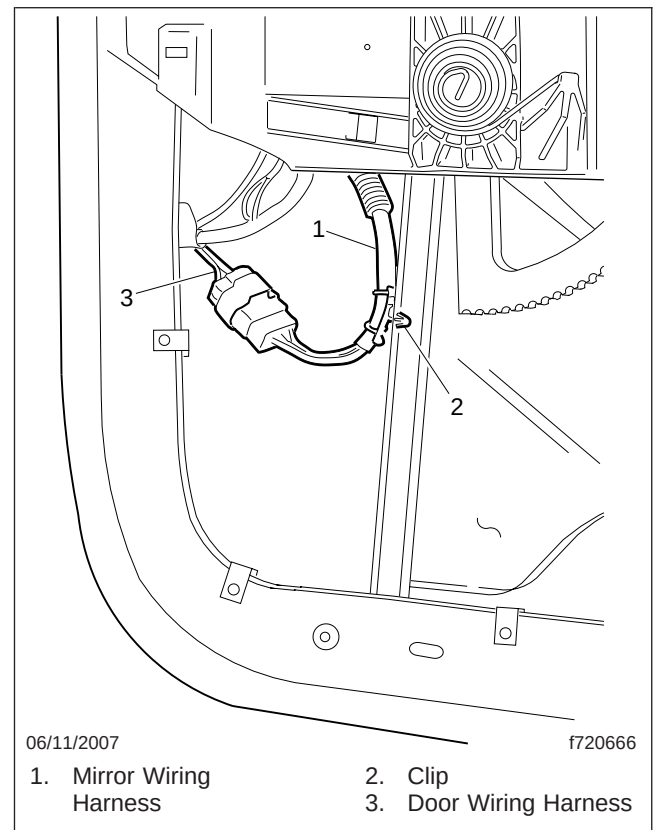

Fig. 2, Mirror Wiring Harness Connector
4. Disconnect the mirror electrical connector from the door wiring harness. See Fig. 2.